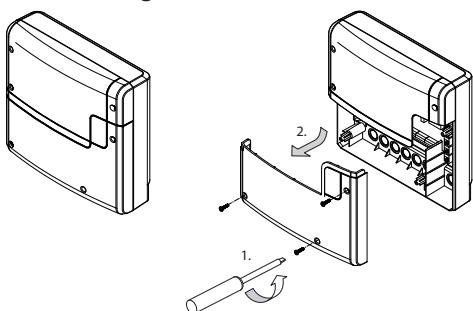

Fig. 2
2. Drill the holes for the supplied 4 x 25 mm wood screws according to the dimensions shown in Fig. 2.
3. Screw one of the wood screws into the top centre hole. This is the screw the contactor box will be hooked onto. The screw should therefore protrude by about 3 mm (see detail in Fig. 2).
5. Firmly attach the bottom part of the housing to the cabin wall if possible using the two bottom holes (Fig. 2)